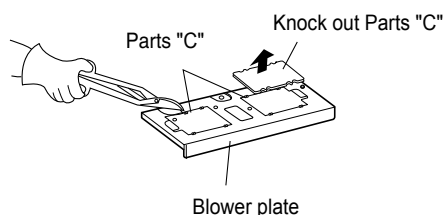

Figure 20
2. Use side cutter or thin snips to cut and remove parts "C" from blower plate. Discard parts "C". Be careful not to distort the plate. See Figure 20.